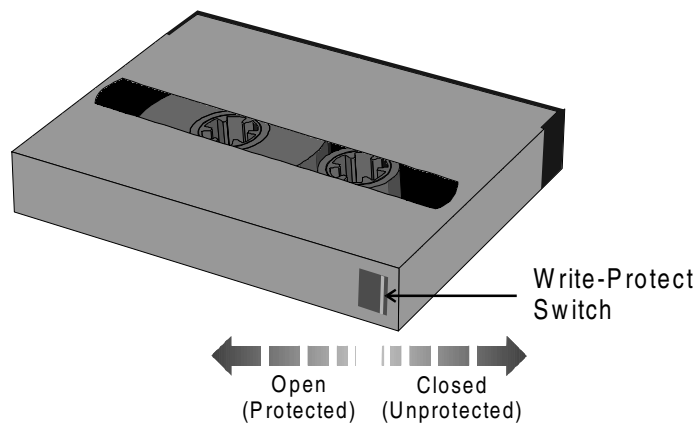

Figure 2. 4mm Cassette Showing Write-Protect Switch
The 4mm VLS uses 4mm DDS data cassettes. Before inserting the cassette into the magazine check the position of the write-protect switch. Set all switches to the enabled position – hole closed (refer to Figure 2). (The write-protect switch enables or disables the ability to write [or delete] files on the data cassette.)
- ❑ To write-protect the data cassette, move the write-protect switch away from the edge of the data cassette, as shown in Figure 2. If the hole is open, the cassette is write protected and cannot be written to (or erased).